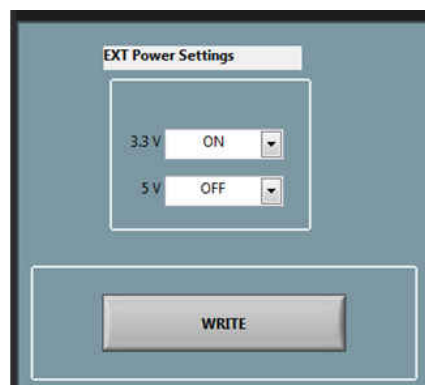

Figure 3-3. EXT Power Settings
- As a first step before sending a V_{OUT} command, click the write command On the EXT Power Settings block as shown in Figure 3-3.